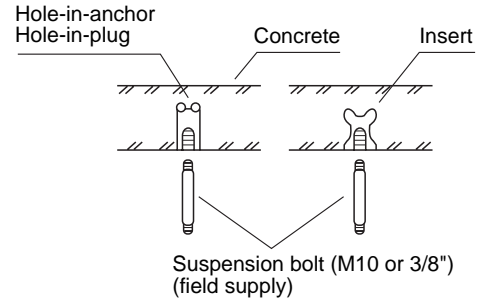

Fig. 3-33
- (1) Fix the suspension bolts securely in the ceiling using the method shown in the drawings (Figs. 3-33 and 3-34), by attaching them to the ceiling support structure, or by any other method that insures that the unit will be securely and safely suspended.